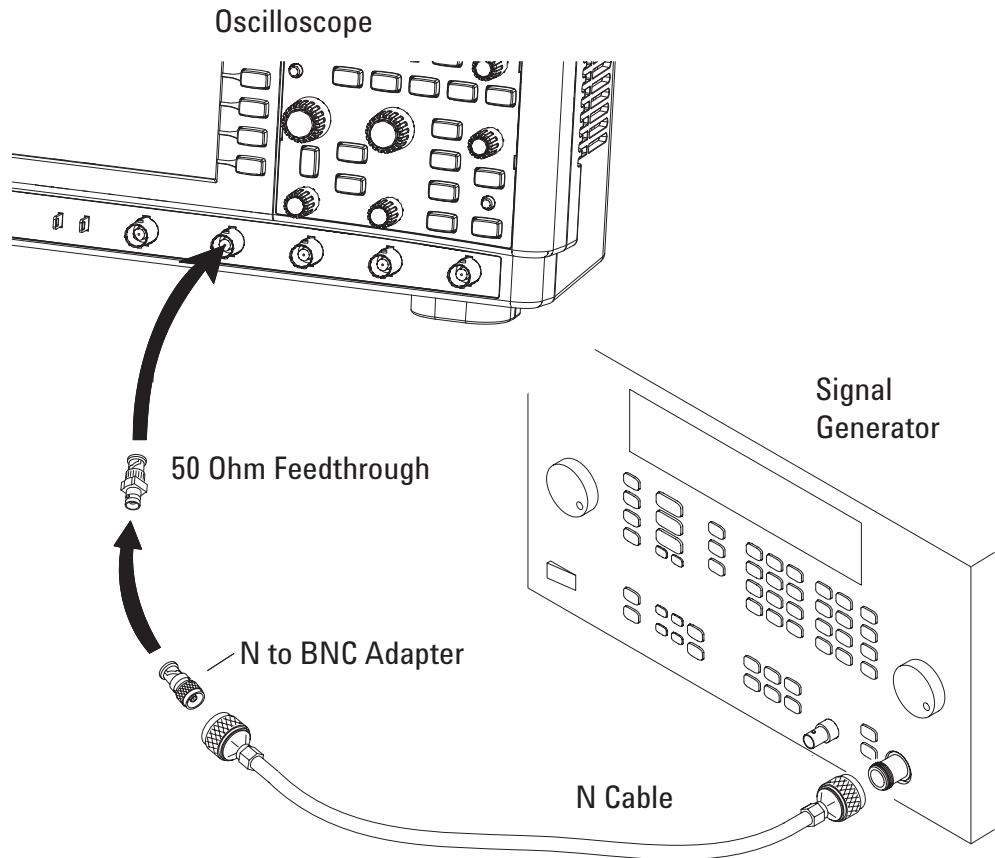

Figure 4 Setting Up Equipment for Internal Trigger Sensitivity Test
- 3** Connect the equipment (see **Figure 4**).